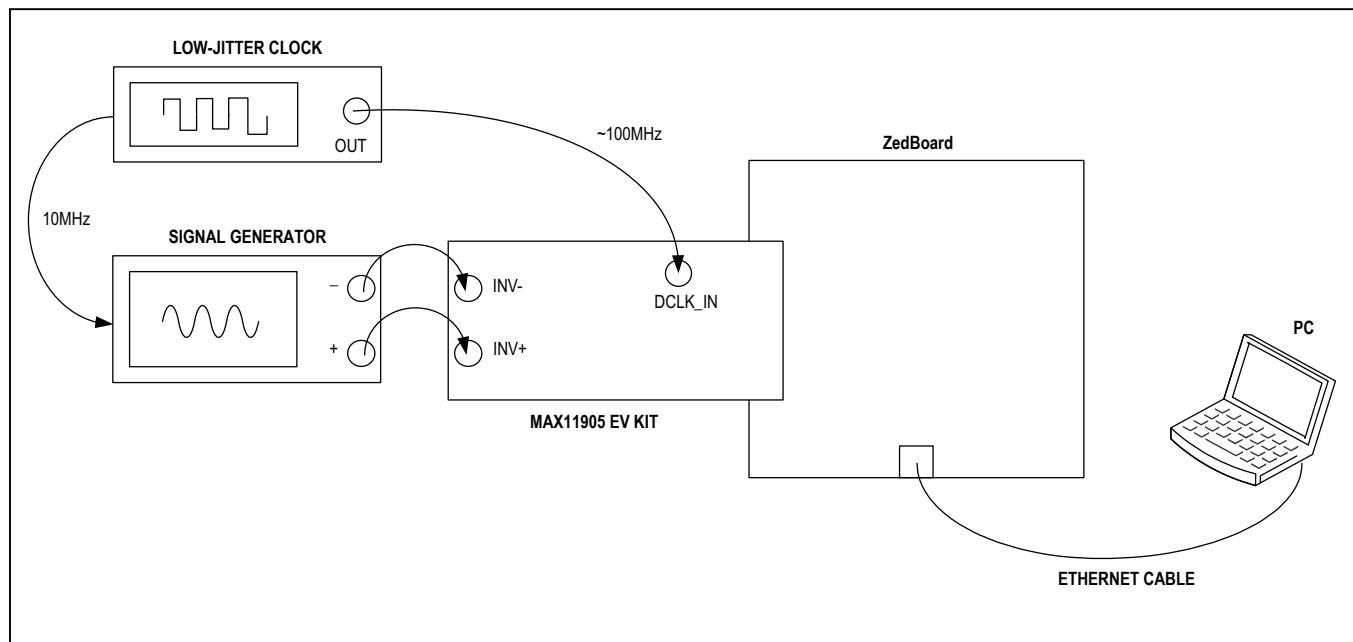
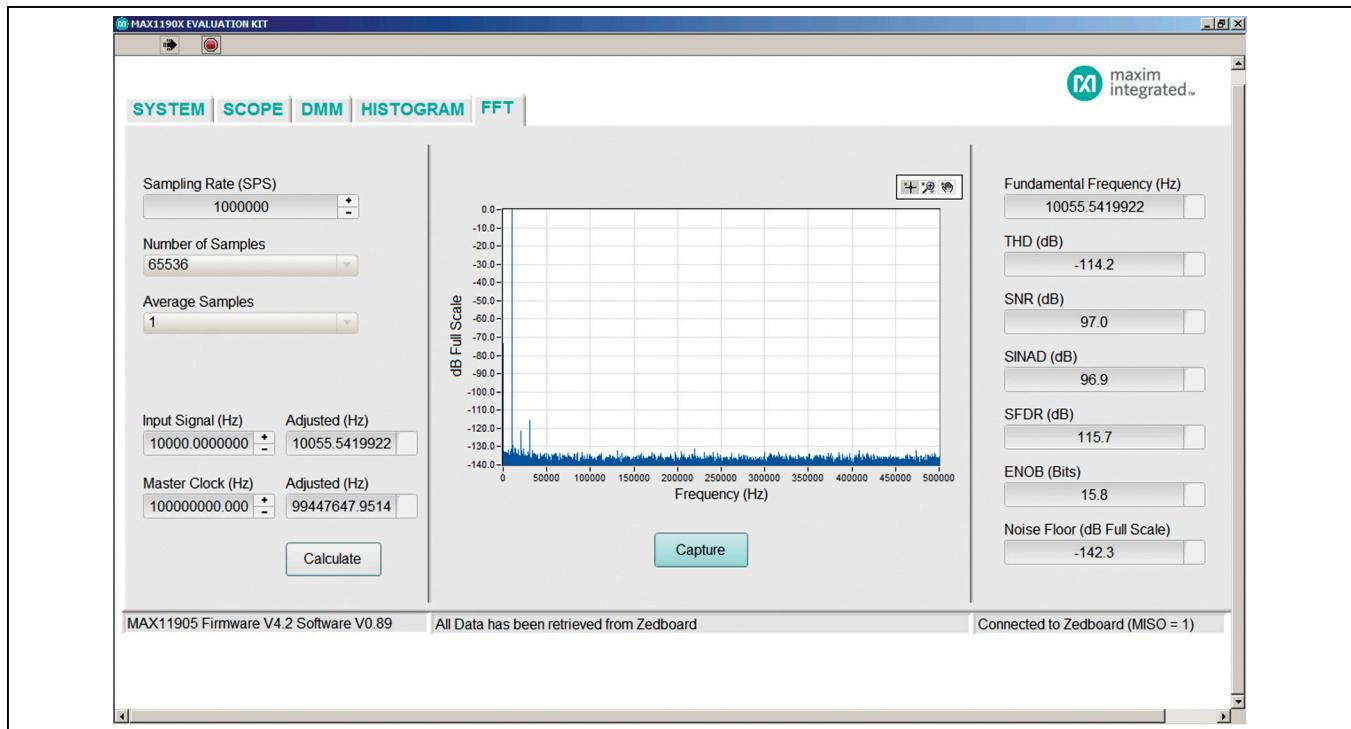
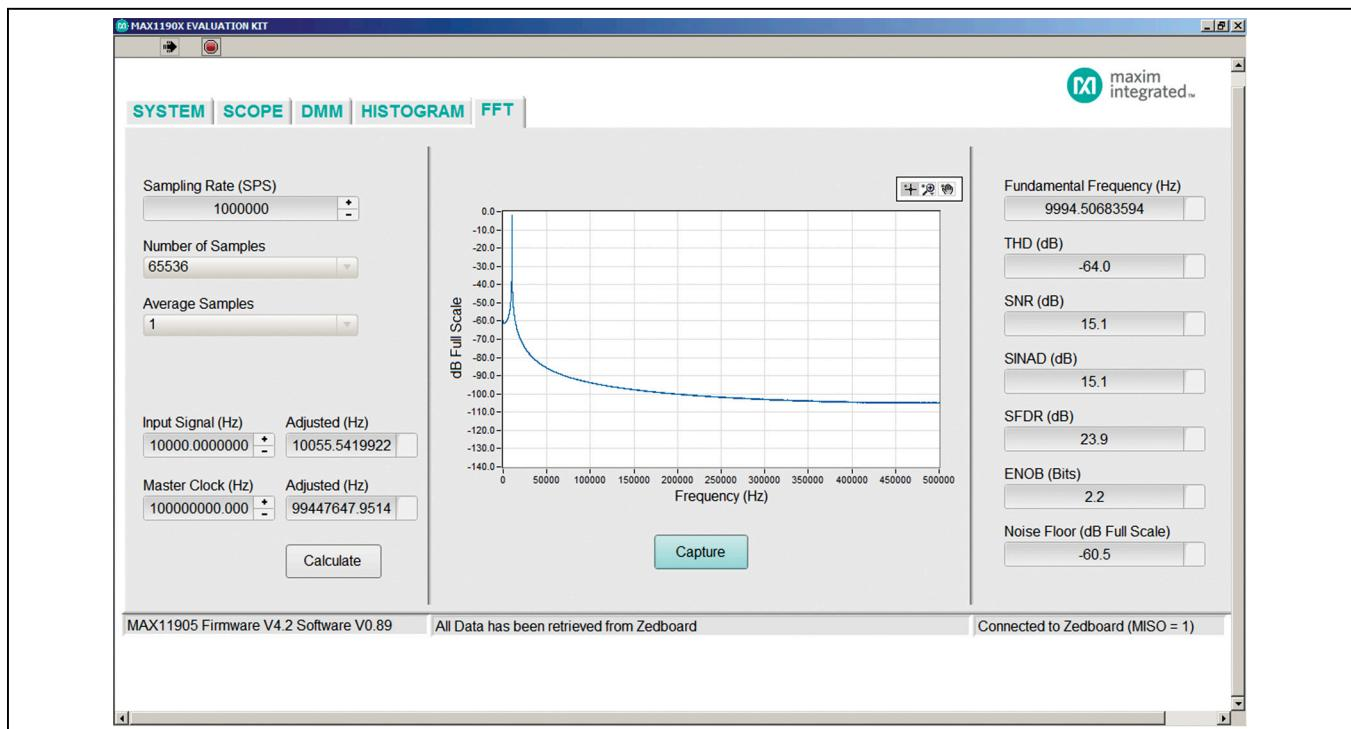

Figure 5. MAX11905 EV Kit Coherent Sampling Setup
Figure 6. MAX1190X EV Kit Main Window, Results Using the Inverting Setup (FFT Tab)
Figure 7. MAX1190X EV Kit Main Window, Results Using the Inverting Setup with Noncoherent Sampling (FFT Tab)
- 20) Click on the **FFT** tab (Figure 6) and start capturing data.
Figure 5 shows the setup Maxim uses to capture data for coherent sampling.
To achieve the results similar to Figure 6, the daughter board was configured to inverting configuration. Use the jumper settings from Table 2 for proper configurations. The input signal from the signal generator must be exactly **10000.000000 Hz**. The low-jitter clock is synchronized with the signal generator. The master clock was initially set to **1000000000 Hz** but to achieve coherent sampling, the user must click on the **Calculate** button and use the **Adjusted(Hz)** frequency. **99523158.694 Hz** was entered into our low-jitter clock. The master clock is fed back to the ZedBoard and multiplied by 3/2, then generates a system clock that drives the Xilinx FPGA. Timing for all SPI timing and sampling rate are based off the system clock. If the results do not look similar to Figure 6 and more similar to Figure 7, then check all connections in Figure 5 to make sure the setup is synchronizing properly.